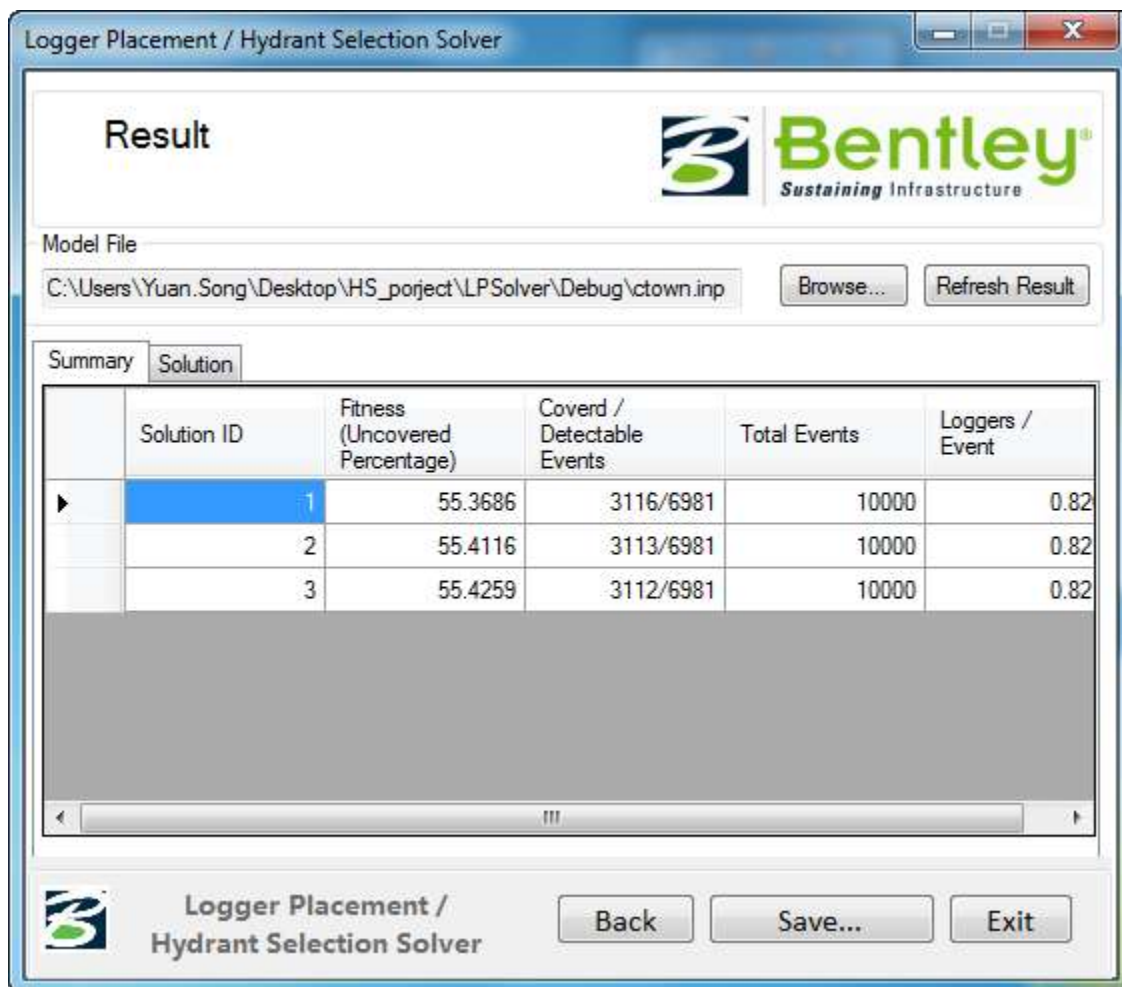
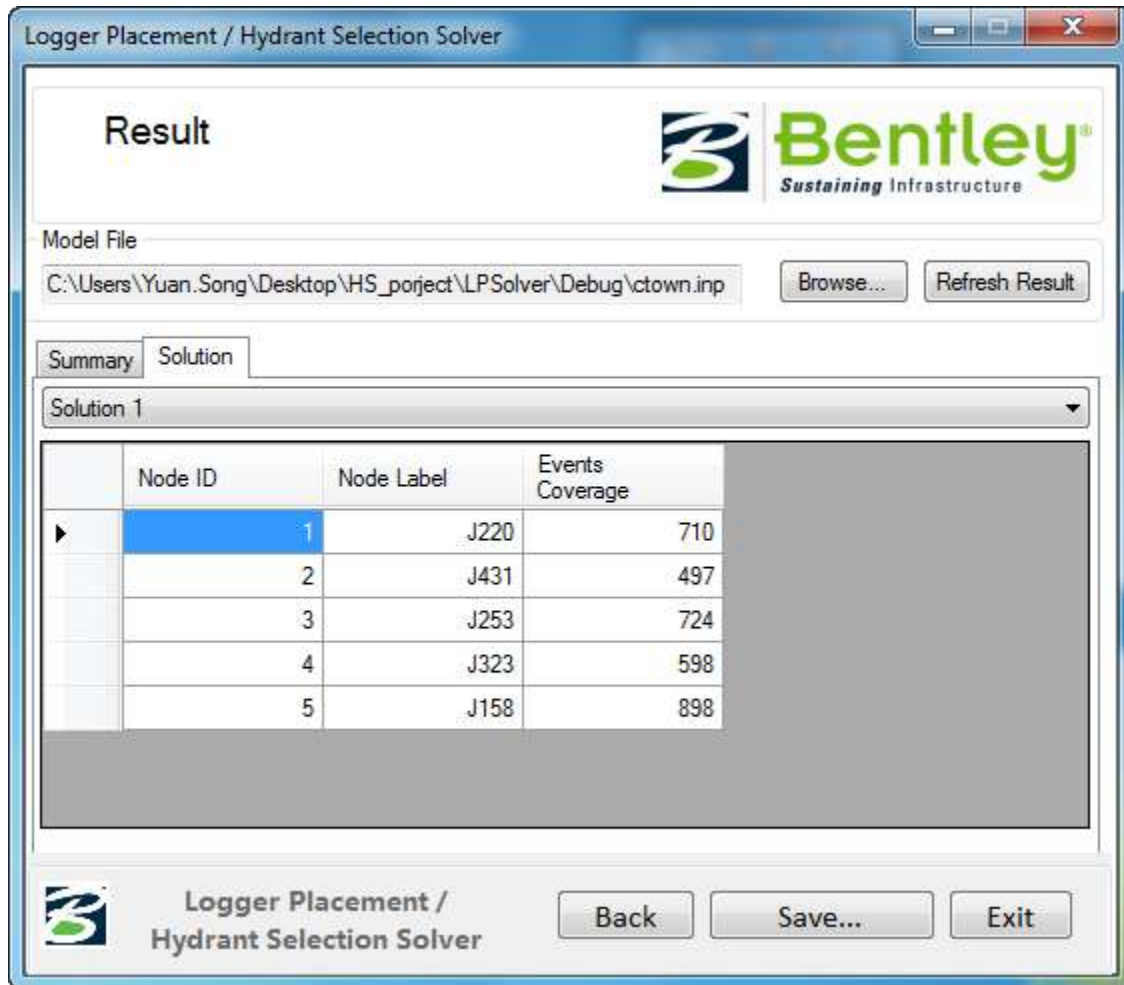

Figure 9 <Result> page – Summary
Figure 10 <Result> page - Solution
If user clicks on the <Result> button on <Parameters Setting> page, the result page will show as in Figure 9 and Figure 10. The result page shows optimized result computed by Darwin Framework or the result of one specific placement provided by user, depending on the user's choice on <Parameters Setting> page. Each solution is a combination of junctions, which are the candidate locations to install pressure loggers. The function of each section on the page is described one by one below.
- a. **Summary Table.** The table shows the basic statistics of top solutions as in Figure 9.
- b. **Solution Table.** The table shows the details of each top solution as shown in Figure 10. The details of the junctions contained in the solution are shown. Each junction corresponds to a candidate location to install pressure logger. The dropdown menu above the table can be used to navigate among different top solutions. The contents of the tables are described below.